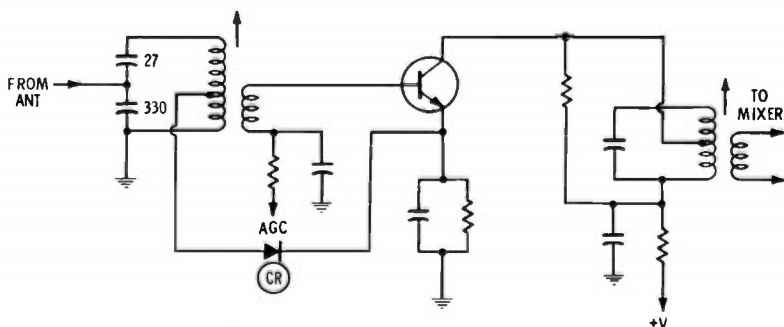
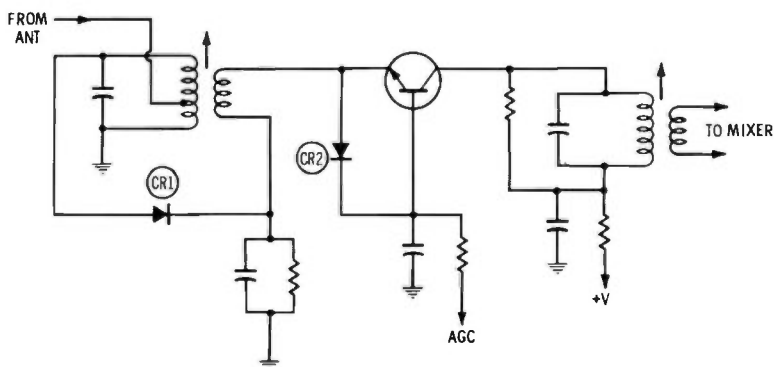

Fig. 5-5. Common-emitter rf amplifier.
Fig. 5-6. Common-base rf amplifier.
Most commonly used in solid-state transceivers is a bipolar transistor connected in the common-emitter configuration, as illustrated in Fig. 5-5. The diode (CR) protects the transistor from excessively strong signals. Transistor input resistance is low, but not as low as when the transistor is connected in the common-base configuration, as shown in Fig. 5-6. In this circuit, two overload diode protectors are used. Both circuits provide significant gain.